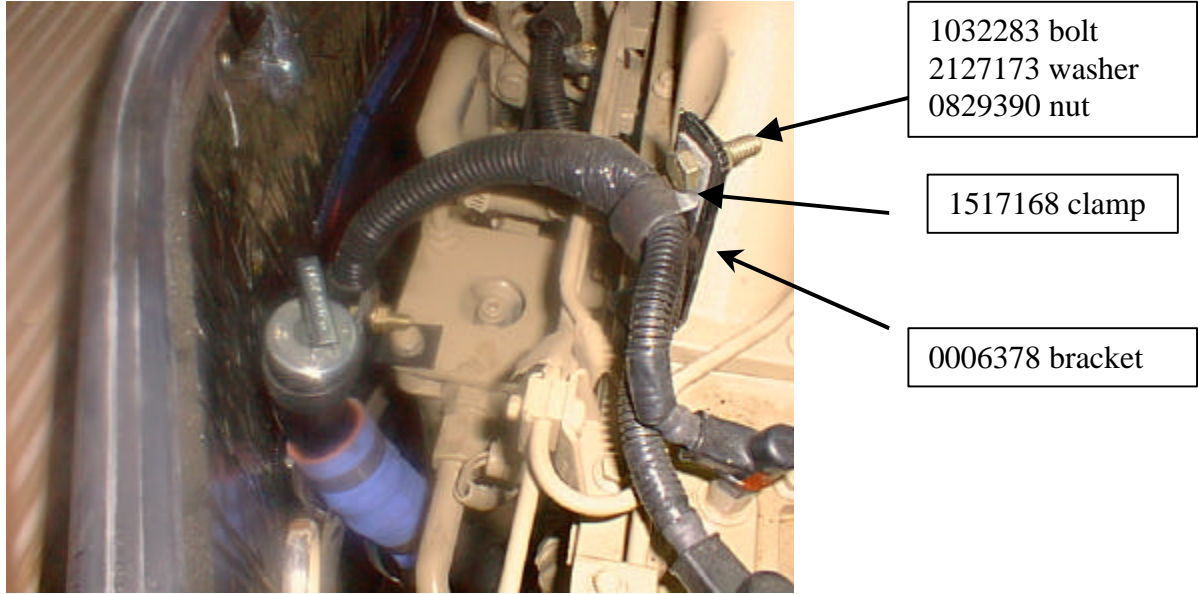

FIGURE 1
4. Install bracket (#0006378) in the direction shown in Figure 1 using Cummins bolt and torque to 18-ft. lb. Install insulated clamp (#1517168) around the wiring harness and attach to the bracket in the direction shown in Figure 1 using bolt (#1032283), flat washer (#2127173) & nut (#0829390).